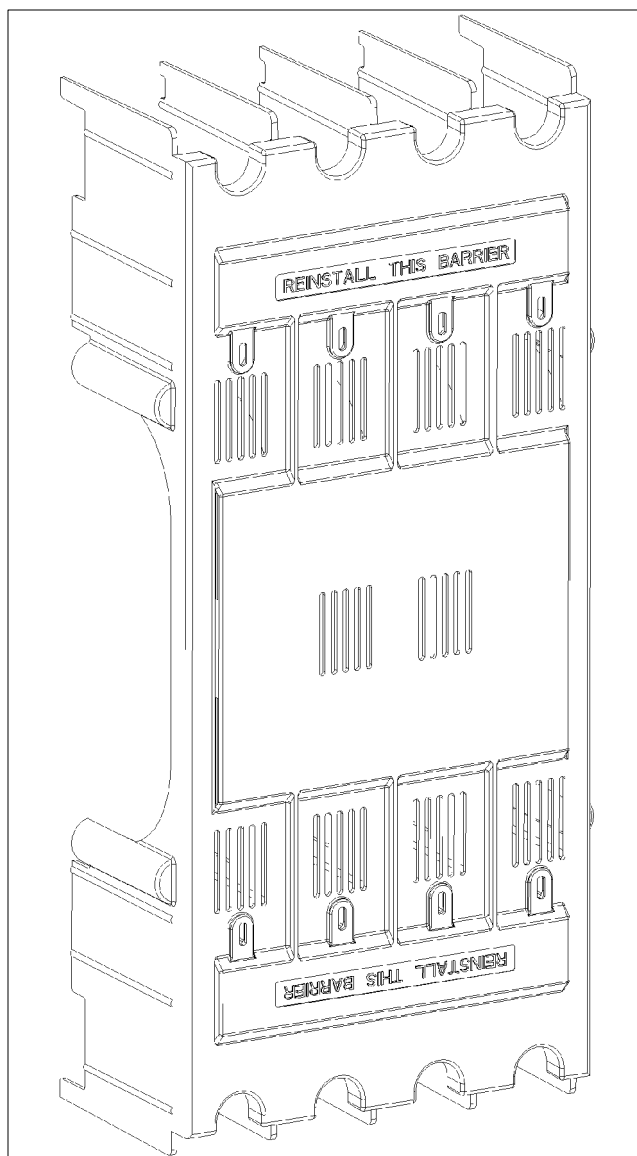

Figure 3-14. Barrier removal.
3. **Remove the barrier** (Figure 3-14). Use a phillip screwdriver to loosen (ccw) four or six captive round-head screws holding the barrier to the arc chutes. Then pull the barrier straight outward to remove it.
4. **Reinstall the barrier.** Install the barrier over the arc chutes. Use a phillips screwdriver to tighten (cw) the four or six round-head screws to secure the barrier to the arc chute insulator nuts. See Figure 3-14.